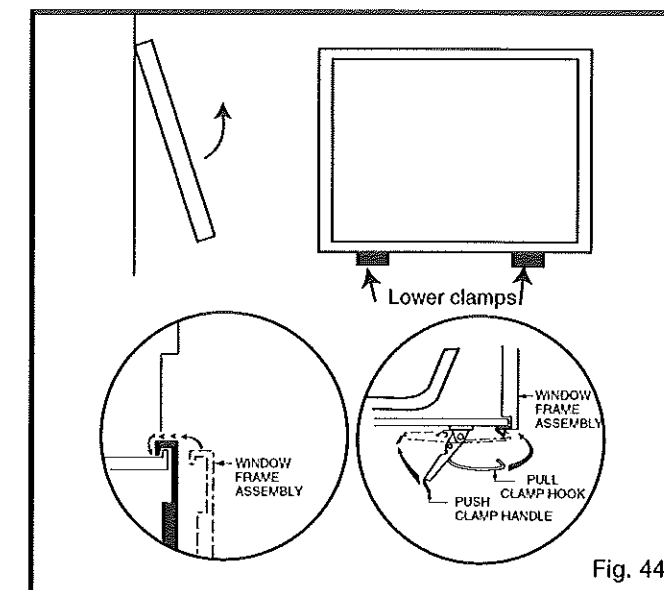

Fig. 44
5. Release the two clamps along lower edge of the frame by pulling down on clamp handles (Fig. 44).